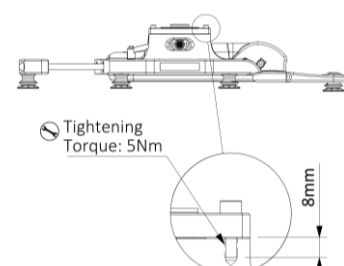

Figure 7: Maximum screw engagement for CM100's robot couplers
While mounting the robot coupler to casemagiQ, always consider the maximum screw engagement and tightening torque as given in Figure 7.
1. The maximum screw engagement for the robot coupler is given in Figure 7.
2. The tightening torque of the robot coupler is ±5% of the value given in Figure 7.